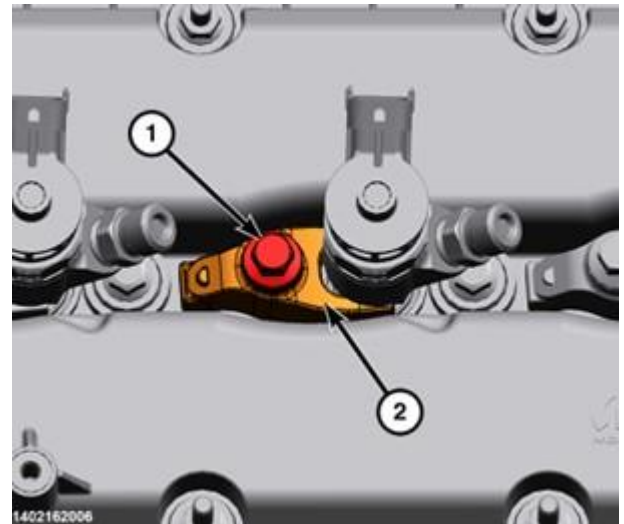

Figure 132 – Fuel Injector Clamps
- 71. Remove the fuel injector clamp bolts (1) and the fuel injector clamps (2) (Figure 132).